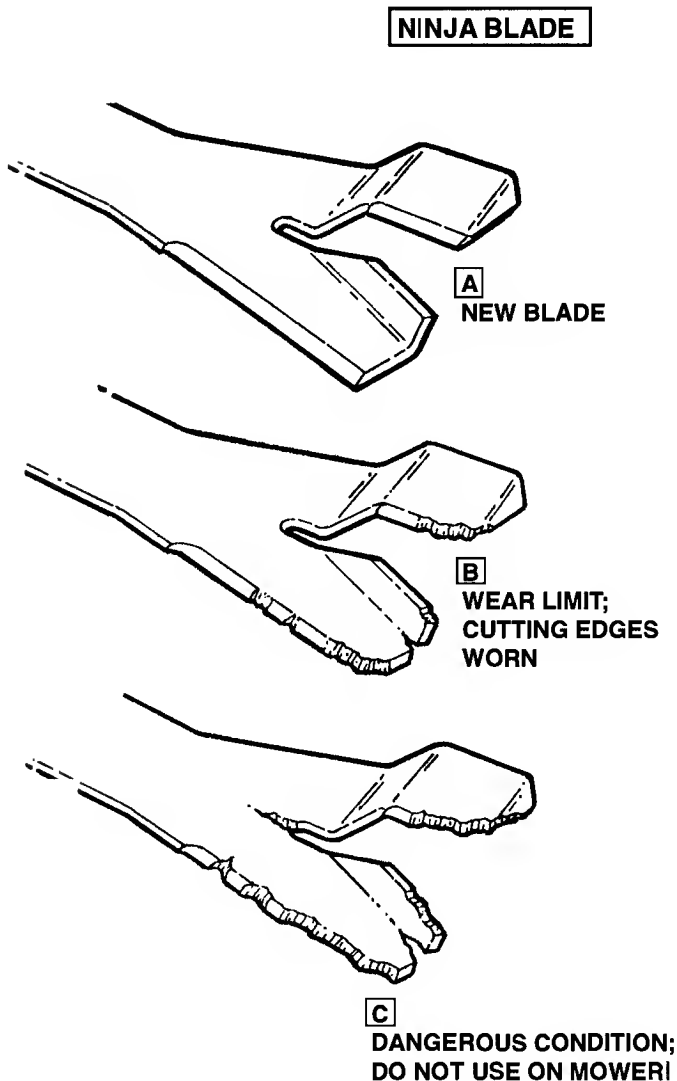

FIGURE 4.10
- B. Consult the blade drawings shown in Figure 4.10 to determine if a blade can be sharpened and safely reused, or if it must be replaced with a new part. Consult the SNAPPER "ACCESSORIES" Manual for Part No.
- C. If the blade is badly chipped, bent, out of balance, or as soon as a notch begins to wear in the tip between the flat blade and upturned blade, as depicted in Illustration "B" of Figure 4.10, then the blade **MUST** be replaced.
Never allow a customer to take a mower out of your repair shop with a NINJA blade worn to the extent shown in illustration "C" of Figure 4.10, without warning that customer of the danger that a tip could fly off and cause either personal injury or property damage.
- B. Clean and inspect blades for excessive wear or damage. Refer to Figure 4.10.